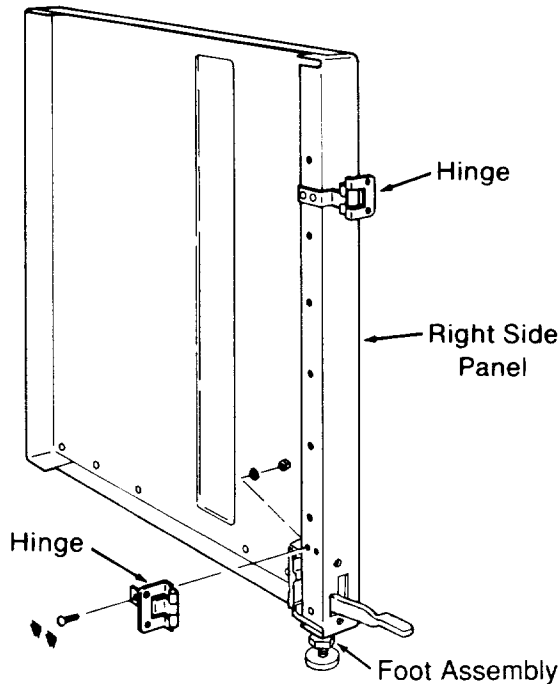

Fig. 31
1. Attach two *hinges* to the *right side panel* above the *foot assembly*, using four truss head bolts, lockwashers, and hex nuts. Tighten with a 7/16 inch wrench. (Figure 31)